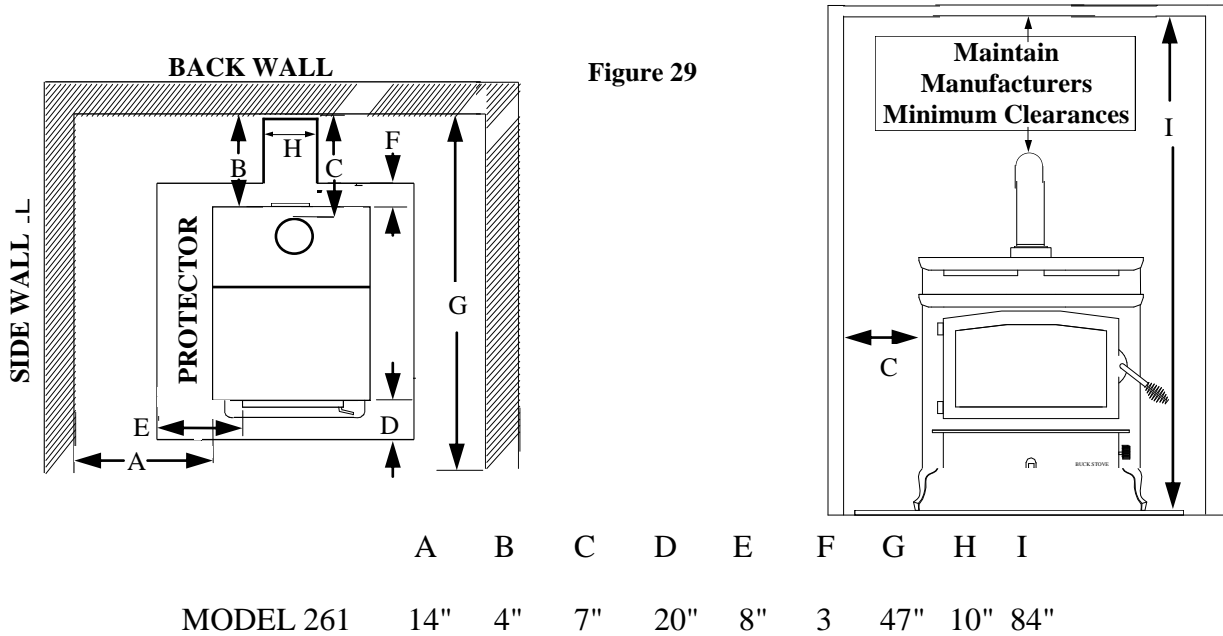
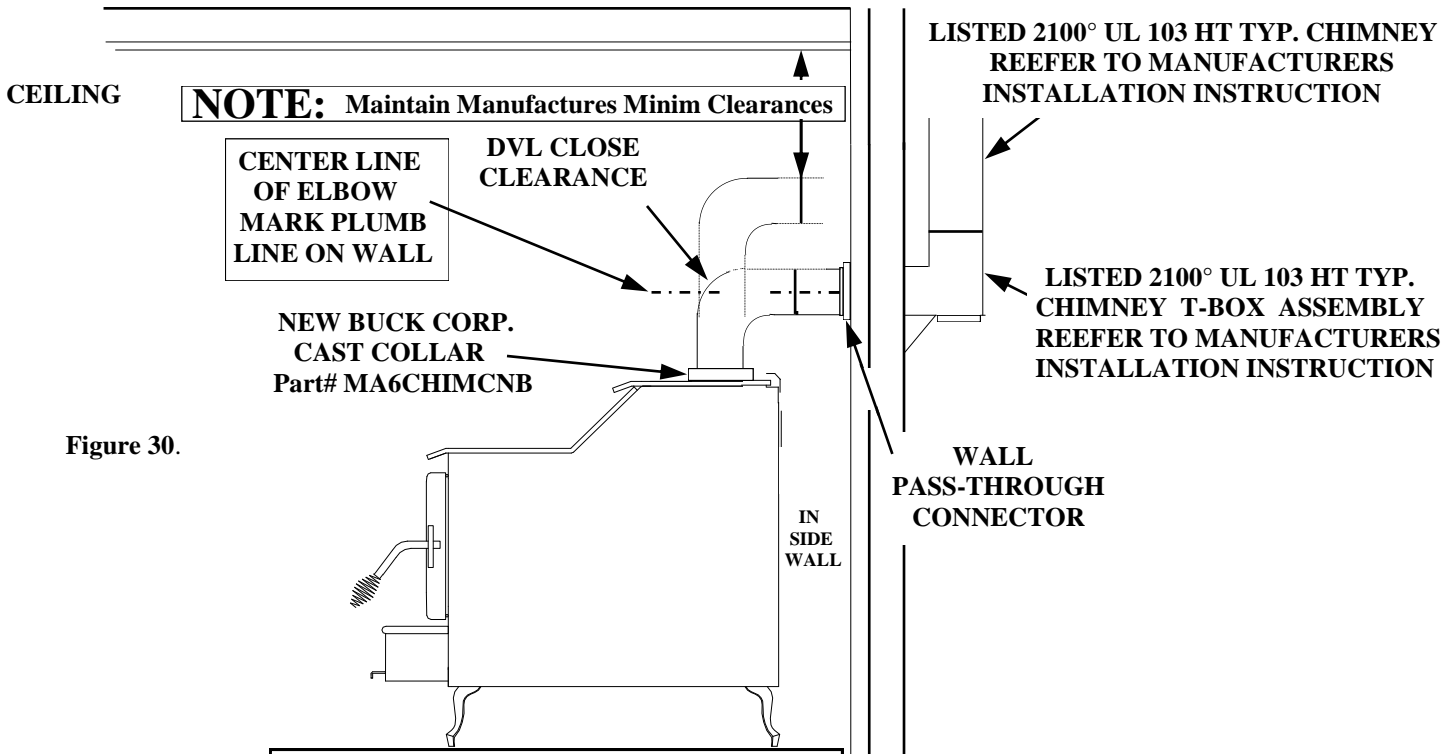

Figure 29
Figure 30.
- A. vertical exit (Page 33, Figure 27 or Page 35, Figure 29) or
NOTE: For minimum clearances (See Page 35, Figure 29).
(See Page 35, Figure 30.)
3. Measure up so there will be at least 1/4" rise per foot of horizontal connector pipe, maintaining clearances to the ceiling as noted in (Page 35, Figure 29, and Figure 30). This will give you the center of the hole for the chimney penetration.
5. Connect the DVL close clearance pipe to the tee-box, per manufacturer's instructions,. DVL close clearance pipe is to be connected with (3) sheet metal screws or rivets to New Buck Corporation Cast Collar, after New Buck Cast Collar Connector has been attached to stove. (See Page 35 ,Figure 30.).